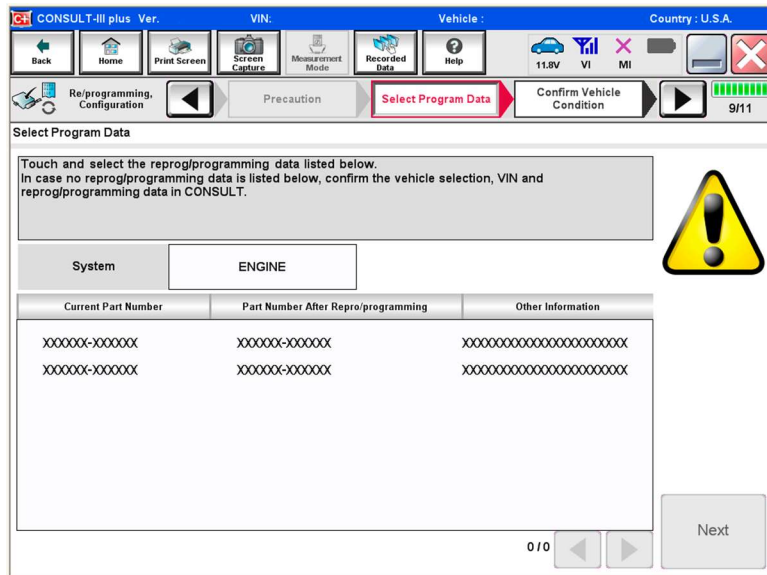

Figure 3
- In this case, the screen in Figure 3 displays